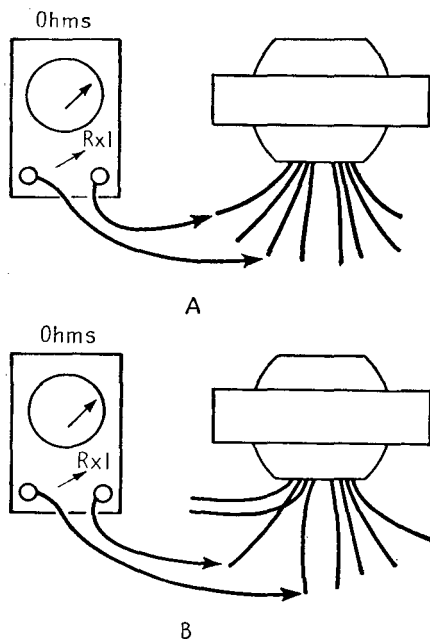

FIG. 8-7.—Pairing the leads.
- b.* Separate these two or three leads, as the case may be, and repeat to find the other windings, as shown in Fig. 8-7 *B*.